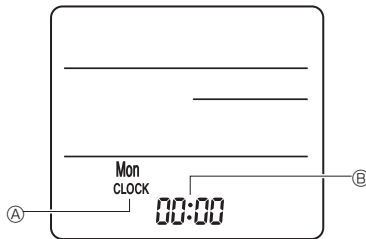

Fig. 6-8
3) Setting (Clock setting) (Fig. 6-8)
① Insert batteries or press the ● CLOCK button with something sharp.